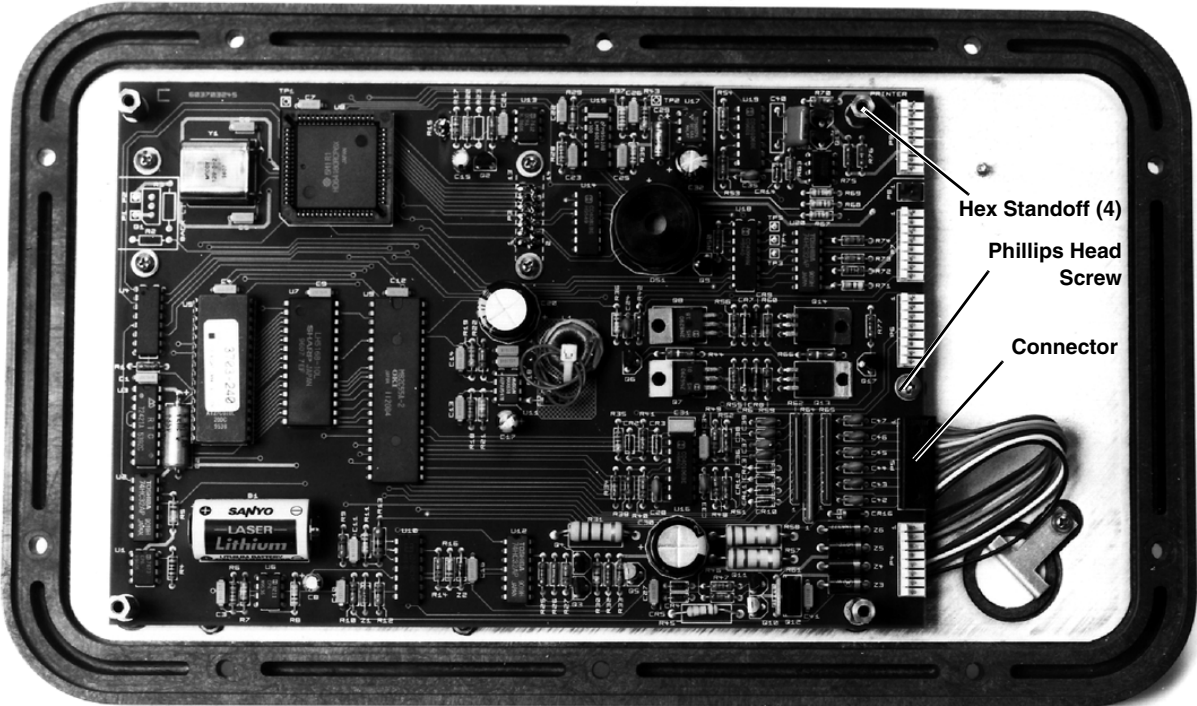

Figure 5-9 Main Circuit Board
5. The main circuit board assembly of the 3700 Sampler is protected by an aluminum shield. To remove this shield, unscrew the stop nut that holds the short grounding strap and unscrew the four screws located in each corner of the shield. Lifting the shield off will then reveal the main circuit board shown in Figure 5-9.
6. To remove the circuit board assembly from the control box cover, unscrew the four hex threaded stand-offs and the phillips head screw, indicated in Figure 5-9. The circuit board may now be pulled away from the control box cover.
7. To completely disconnect the circuit board assembly from the cover, disconnect the connector shown in Figure 5-9.